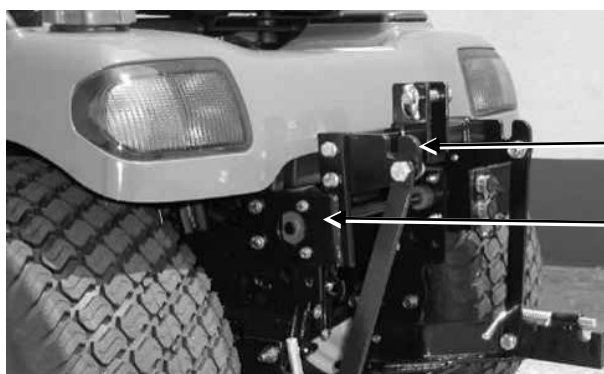

Fig. 10: Mounting the transverse element
1. Connect the transverse element to the tractor frame (see Fig. 10).
2. If a driver's cab is mounted, place the supplied spacer plate between transverse element and the mounting (see Fig. 10).